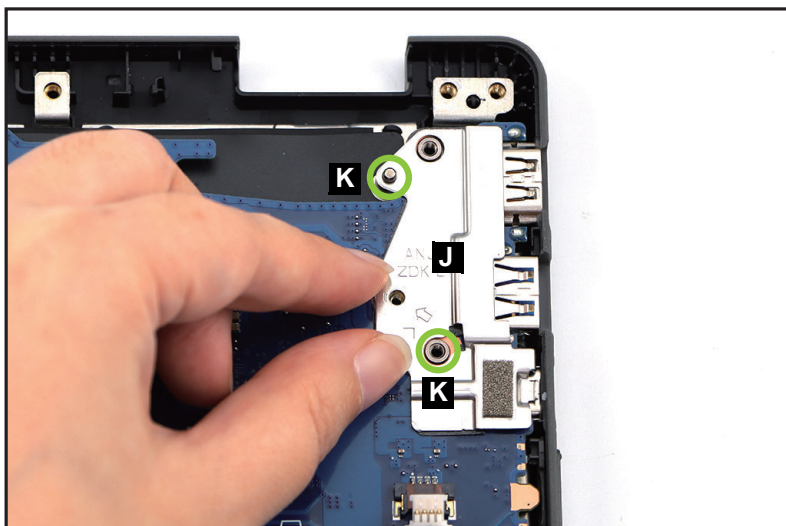

Figure 1-27. Mainboard Removal
10. Release the I/O bracket (J) from the guide pins (K) on the top assembly (Figure 1-27). Then remove the I/O bracket.